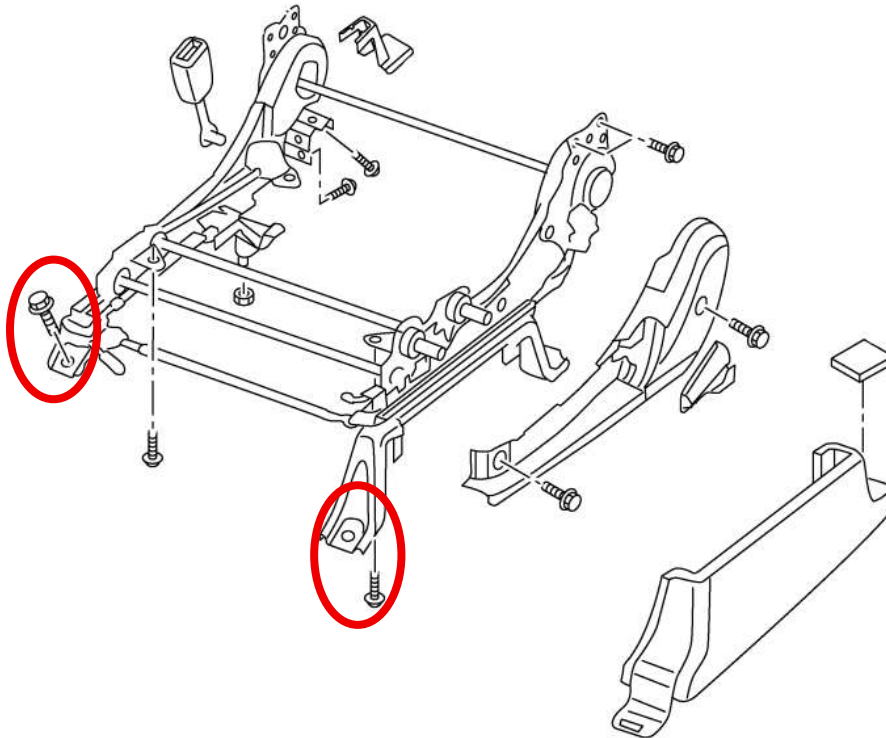

Figure 1
1. Remove the (2) two bolts securing the Driver's Seat to the vehicle. You may have to pull up a small amount of plastic trim to access the bolts. *Figure 1.*